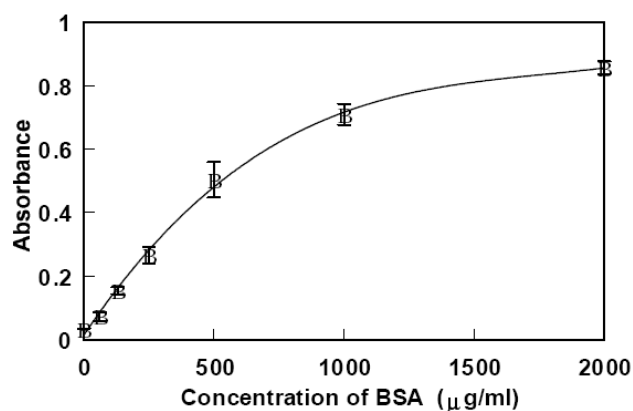

Figure 2: Typical calibration curve
- 8) Plot the concentration of BSA on the X-axis and the absorbance value on the Y-axis to prepare a calibration curve (a typical example is shown in Fig. 2). Determine the protein concentration of unknown sample using the calibration curve.